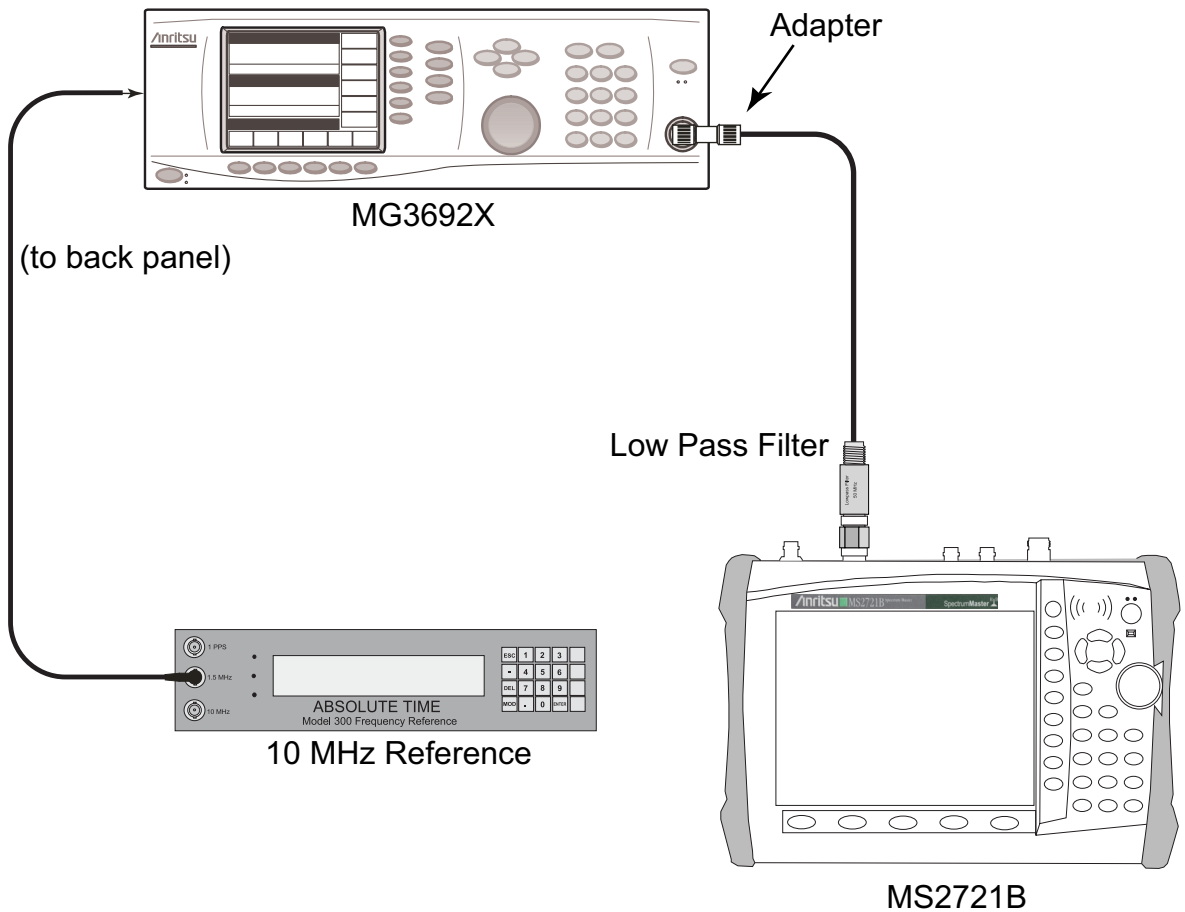

Figure 2-4. Spectrum Analyzer Second Harmonic Distortion Test Setup
2. Connect the synthesized signal generator output to the Spectrum Analyzer RF In connector of the MS2721B through the 50 MHz lowpass filter, as shown in Figure 2-4).
5. Press the **Shift** key and then the **Trace** (5) key. Press Trace A Operations and set # of Averages to 5.